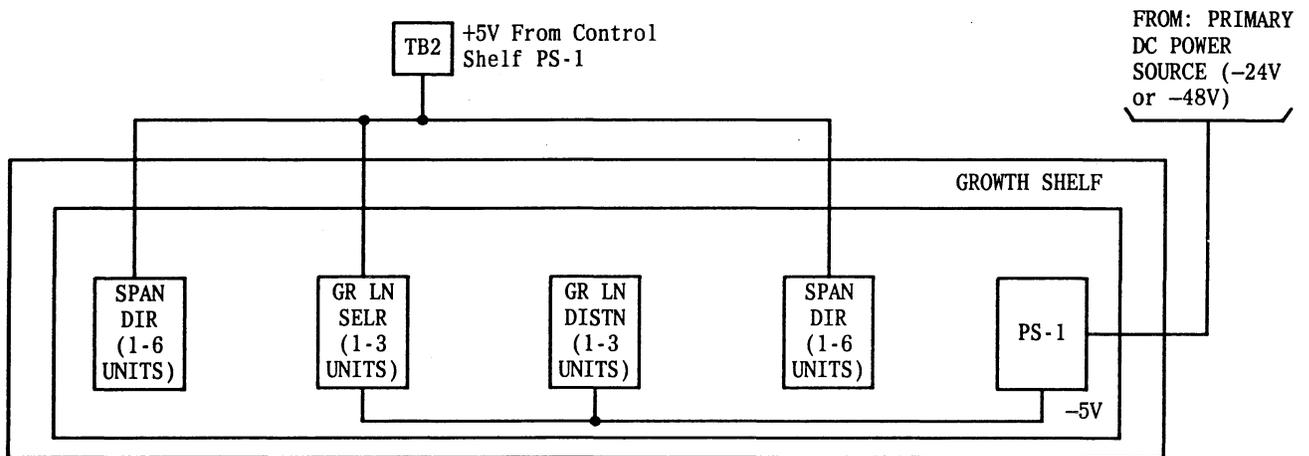

Fig. 35—Growth Shelf Power Distribution
- Figure 35—Growth Shelf Power Distribution